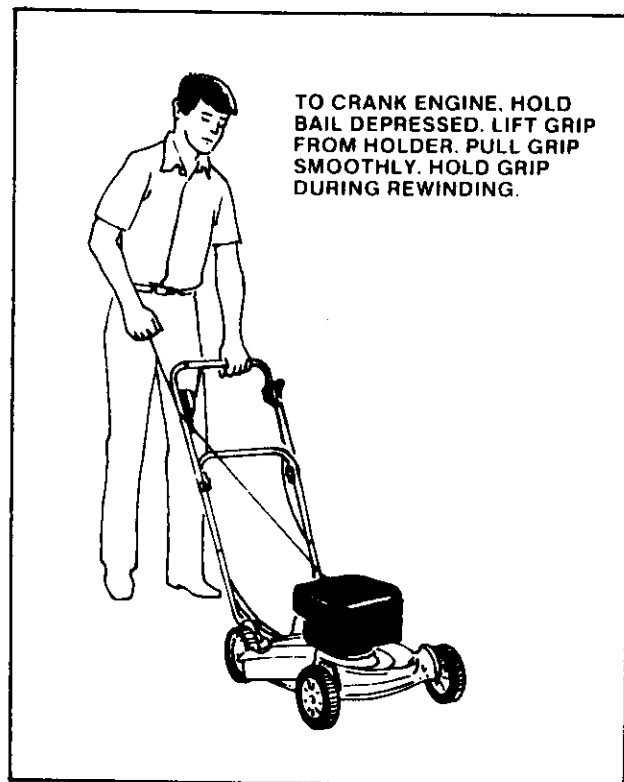

FIGURE 8
STEPS FOR STARTING AND STOPPING ENGINE (See Figure 8)
3. Grasp and lift starter grip. Depress and hold the *bail* against upper handle. (See Figure 8.) The bail is part of the safety and engine stopping system. The engine cannot be started if the bail is not depressed. The engine will stop running when the bail is released.